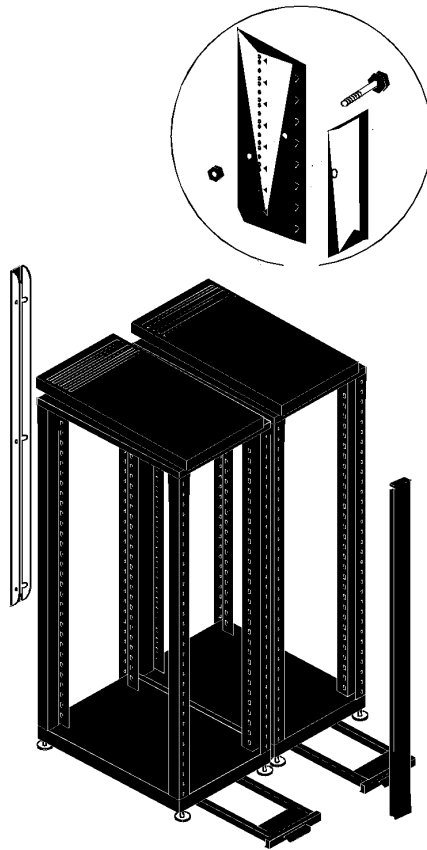

Figure 5. Attaching the Tie Front and Tie Rear Panels
7. Place the tie-front panel between the front columns of the two cabinets. Make sure that the top tab goes over the lip of the tie-top. Fasten the panel in place with three bolts, as shown in Figure 5. Leave the nuts loose for now.
9. Press the tie-rear insert into place between the rear columns of the two cabinets. Fasten the panel in place with three bolts, as shown in Figure 5. Leave the nuts loose for now.